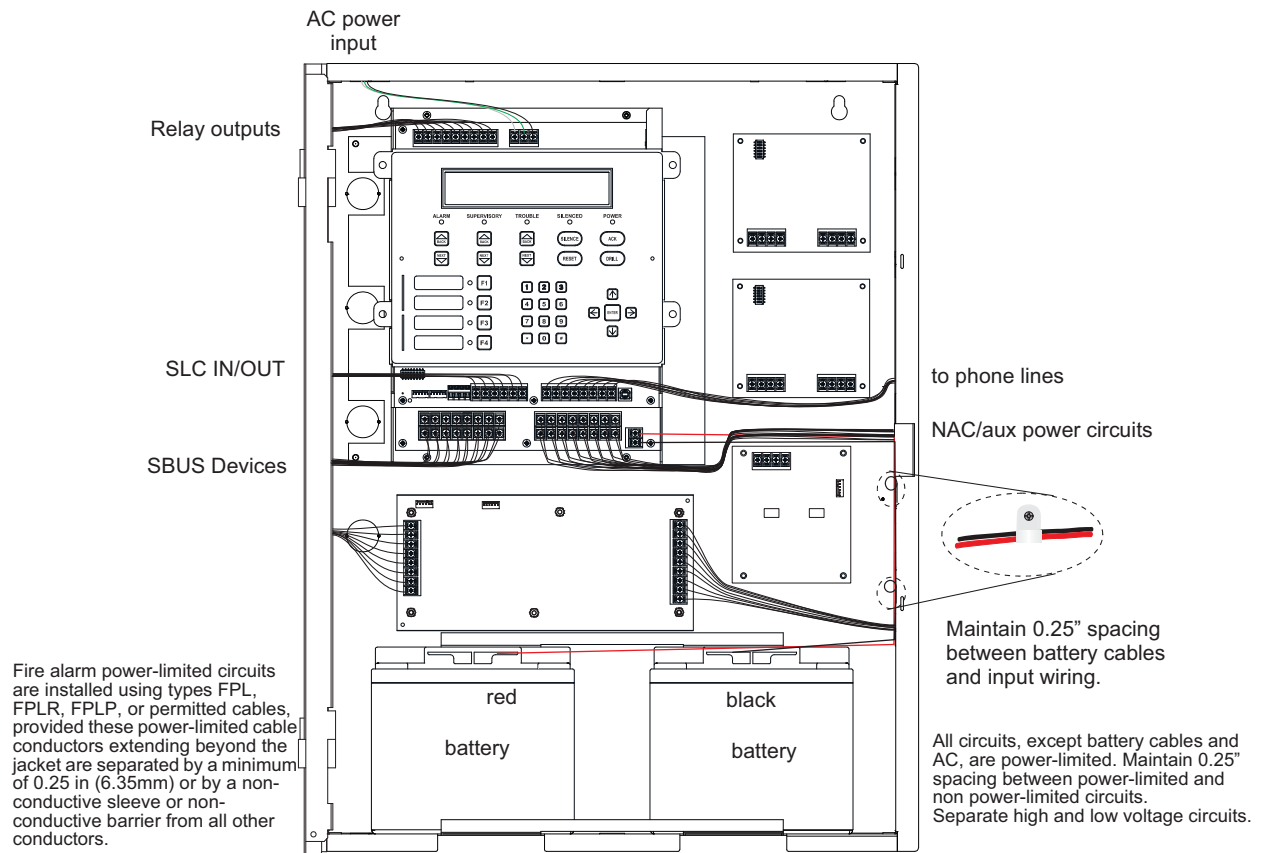

Figure 4.5 Wire Routing Example for IFP-2100ECS
- Route the wiring around the inside perimeter of the cabinet. It should not cross the circuit board where it could induce noise into the sensitive microelectronics or pick up unwanted RF noise from the high speed circuits. See Figure 4.5 for an example.
NOTE: Figure 4.5 is an example of how the wire connections can be routed. However, any other cabinet knock-outs (on either the main control panel or the RBB/AB-55 cabinet), that are not previously being used may be utilized to connect conduit between the two cabinets.